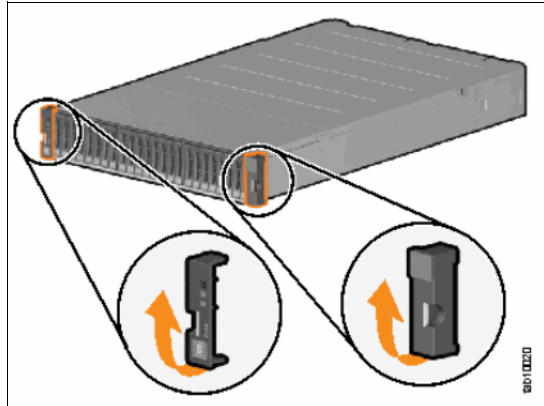

Figure 6-4 Removing the control enclosure end caps
1. Remove the left and right end caps from the control enclosure by grasping the handle and pulling the bottom of the end cap free, then clearing the tab on the top of the enclosure. See Figure 6-4.